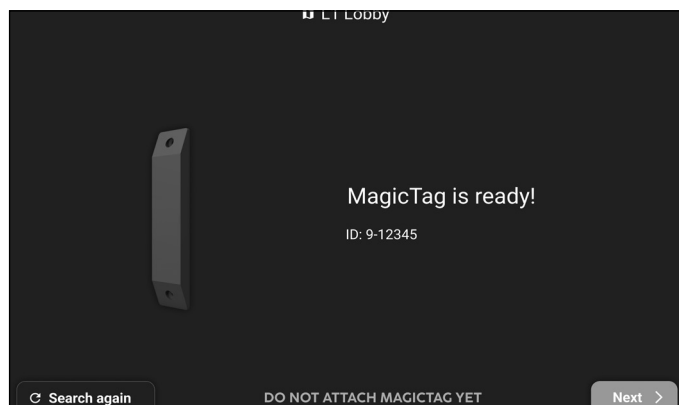

Figure 27
5. Once the MagicTag is detected (Fig. 27), verify that the ID (9-XXXXX) on the touchscreen matches that on the MagicTag.